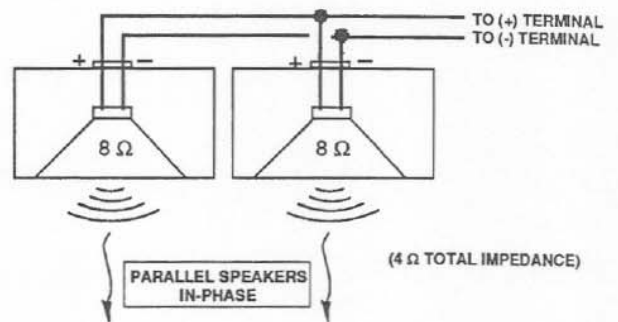

Figure 4
- A. When you connect speakers to the TO SPEAKERS jacks on the Mixer's rear panel, you are connecting them in parallel (see Figure 4). For example, if you are using two Electro-Voice 100S speakers ($8\ \Omega$ each), the total impedance will equal $4\ \Omega$.